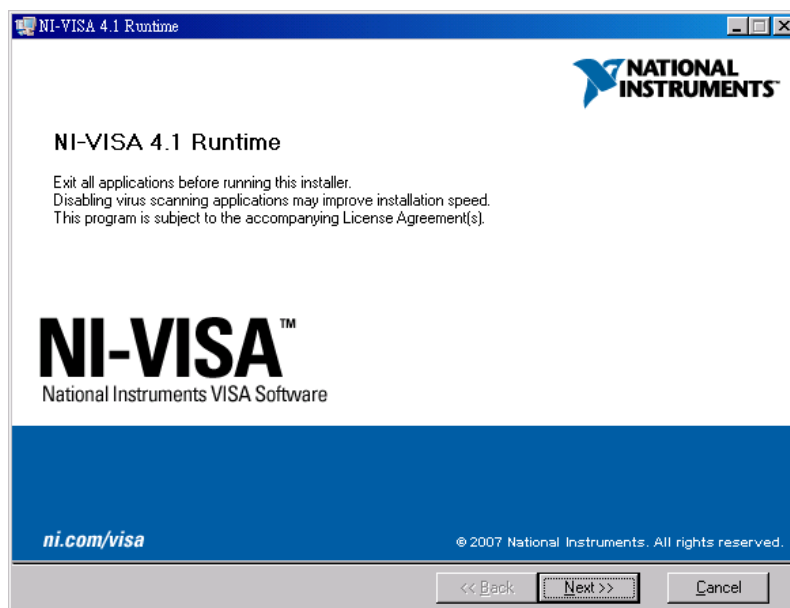

Figure 1-5 NI VISA 4.1 Run Time Engine Installation Screen
1. To install the NI VISA Run Time Engine 4.1 driver, double-click the NI VISA Run Time Engine in Figure 1-1 and it enters to Figure 1-5 after initialization.